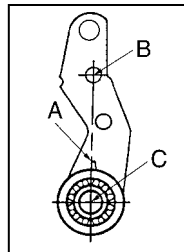

Figure 7
2. Tang of wrap spring (71) must be below, and must make contact with, wrap spring stop (76) when solenoid lever (28) is manually raised. If stop is bent outward, allowing tang to bypass it, rebend to square position, assemble correctly, and reset solenoid airgap as described in Paragraph 1.
3. Should air gap have decreased or disappeared, the solenoid lever and pinion assembly (8) may have become contaminated due to lubrication or residue as a result of overheating of brake. For reference purposes refer to Figure 7. Tang A should align with the centerline of hole B. Use kit #5-66-7371-00 if replacement is necessary.
4. Check condition and positioning of pinion (32) and rack (part of lever arm assembly 17). Replace parts as necessary with complete assemblies.